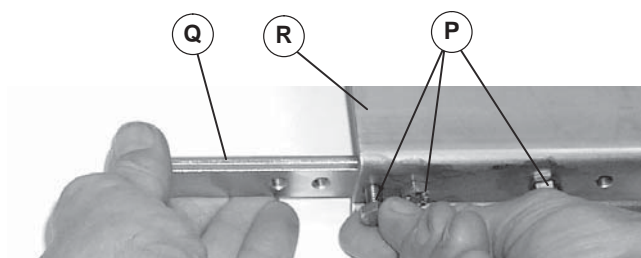

Figure 7
3. Install frame connecting bar (Figure 7, item Q) on conveyor frame (R) with three screws (P). Do not tighten screws.